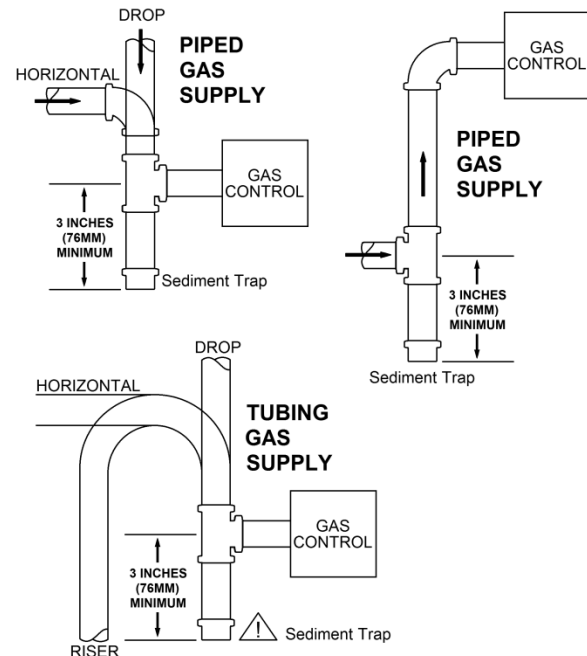

Figure 17 – Sample Gas Supply Sediment Traps
👉 NFPA Code and Hearthstone require the use of a dedicated sediment trap just upstream of the unit. Damage to the valve, or other components due to the lack of a sediment trap are not covered by warranty (see figure 17).
- Install the sediment trap (where required) in the gas supply line to prevent contamination of the gas valve (see figure 17).